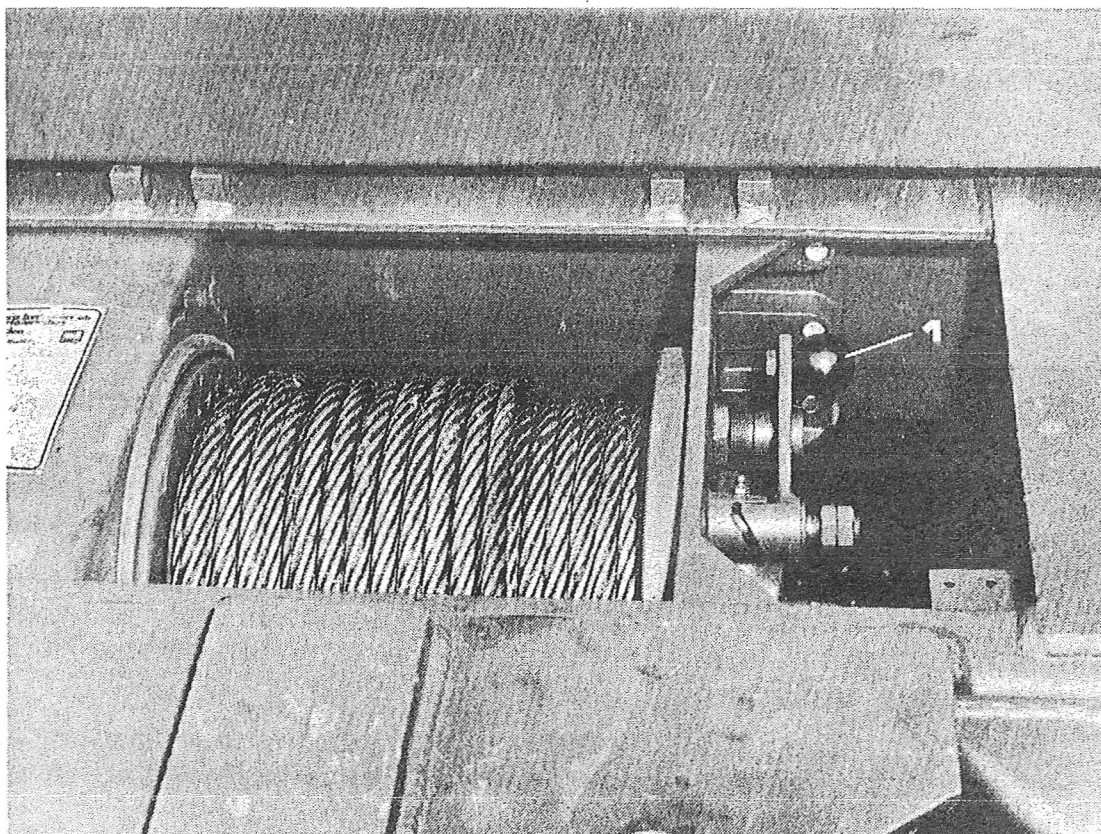

FIGURE 18 VIEW OF FRONT WINCH DOG CLUTCH LEVER
94. Front Winch—To Operate (See Figure 18)
(c) Disengage the dog clutch to the drum pulling the lever on the side of the winch forward (see Figure 18) and manually pull out the required amount of winch rope.